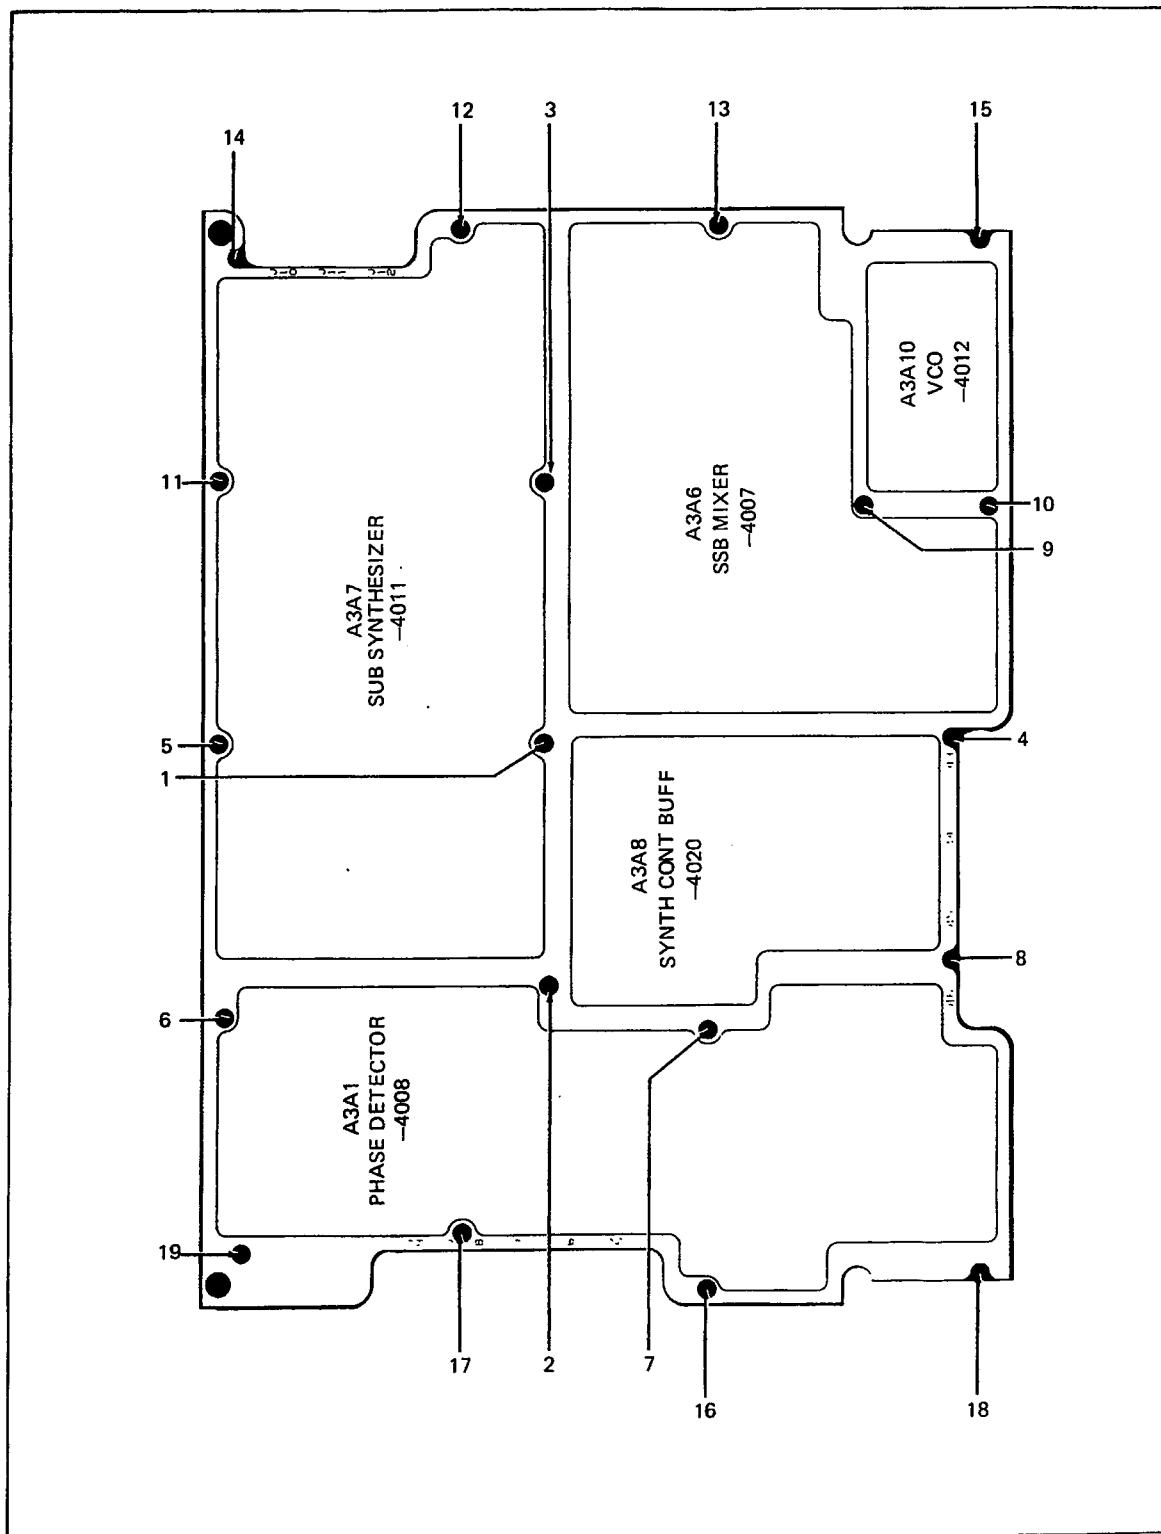

Figure 3-10. Torque Sequence, Bottom Cover of the Synthesizer Module
4. Remove the 19 screws and washers that hold the lower cover of the Synthesizer Module in place (Figure 3-10).
- a. Torque all the screws to 3 inch-pounds in the numerical sequence shown in Figure 3-10.
- b. Torque all the screws to 7 to 9 inch-pounds in the numerical sequence shown in Figure 3-10. The torque value should be the same for all screws.